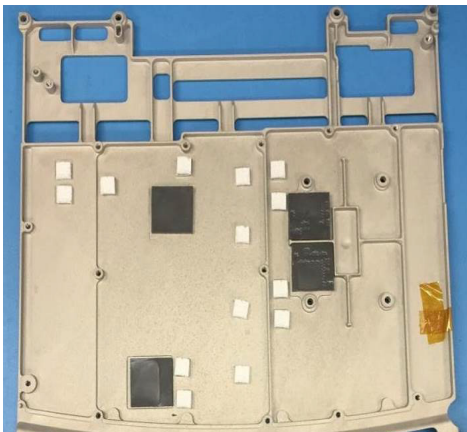

Figure 6.20 Thermal Pad placement
- 2 Install new thermal pads on the new Mid-Frame, do so per Figure 6.20